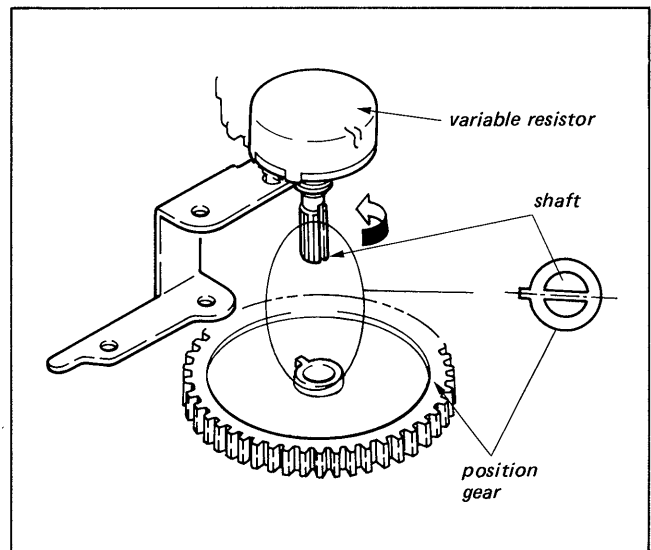

Fig. 3-5
2. Attach the position gear to the shaft so that the slit in the shaft matches the projection on the gear as shown in Fig. 3-5.